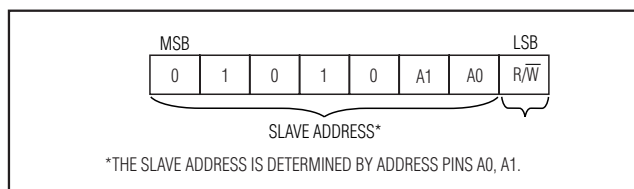

Figure 2. DS3501 Slave Address Byte
The slave address byte consists of a 7-bit slave address plus a R/W bit (see Figure 2). The DS3501’s slave address is determined by the state of the A0 and A1 address pins. These pins allow up to four devices to reside on the same I2C bus. Address pins tied to GND
**Slave address byte:** Each slave on the I2C bus responds to a slave address byte sent immediately following a START condition. The slave address byte contains the slave address in the most significant 7 bits and the R/W bit in the least significant bit. The slave address byte of the DS3501 is shown in Figure 2.